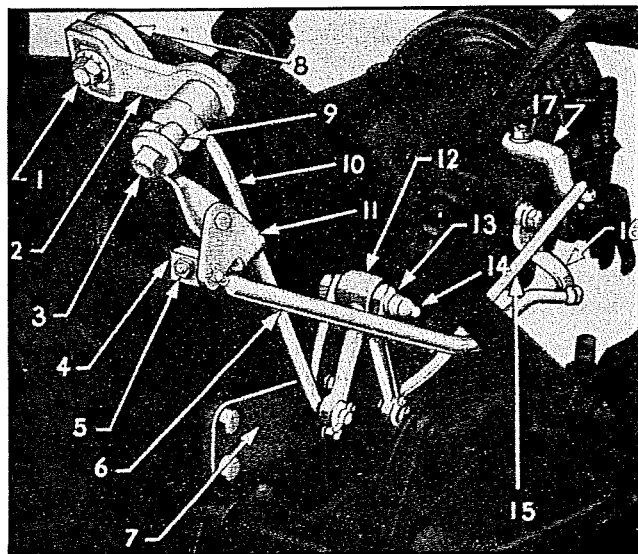

Fig. 22—Gearshift Control Rods
1941-42 MANUAL SHIFT: (See Fig. 22.) (1)—Loosen the lock bolt at the upper lever on the lower end of the steering column. (2)—Set the transmission gears in neutral and position the hand control lever in a horizontal position, and tighten the lock bolt.
1941-42 MANUAL SHIFT: (See Fig. 22.) (1)—Loosen the lock bolt at the upper lever on the lower
1941-42 MANUAL SHIFT: (See Fig. 22, page 9.) (1)—Loosen the lock bolt at the upper lever on the lower end of the steering column. (2)—Set the transmission gears in neutral and position the hand control lever in a horizontal position, and tighten the lock bolt.